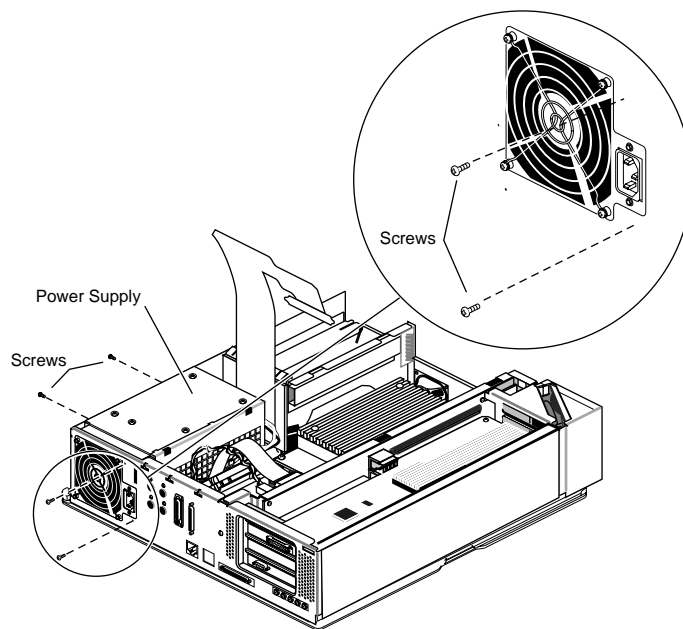

Figure 9-17 Removing the Power Supply Screws
- Move the workstation, or position yourself so that you are facing the back of the workstation. The power supply is located on the left, as shown in Figure 9-17.
- Remove the two screws from the side of the chassis and the two screws from the back of the chassis. The two screws on the back of the chassis are offset. See Figure 9-17.